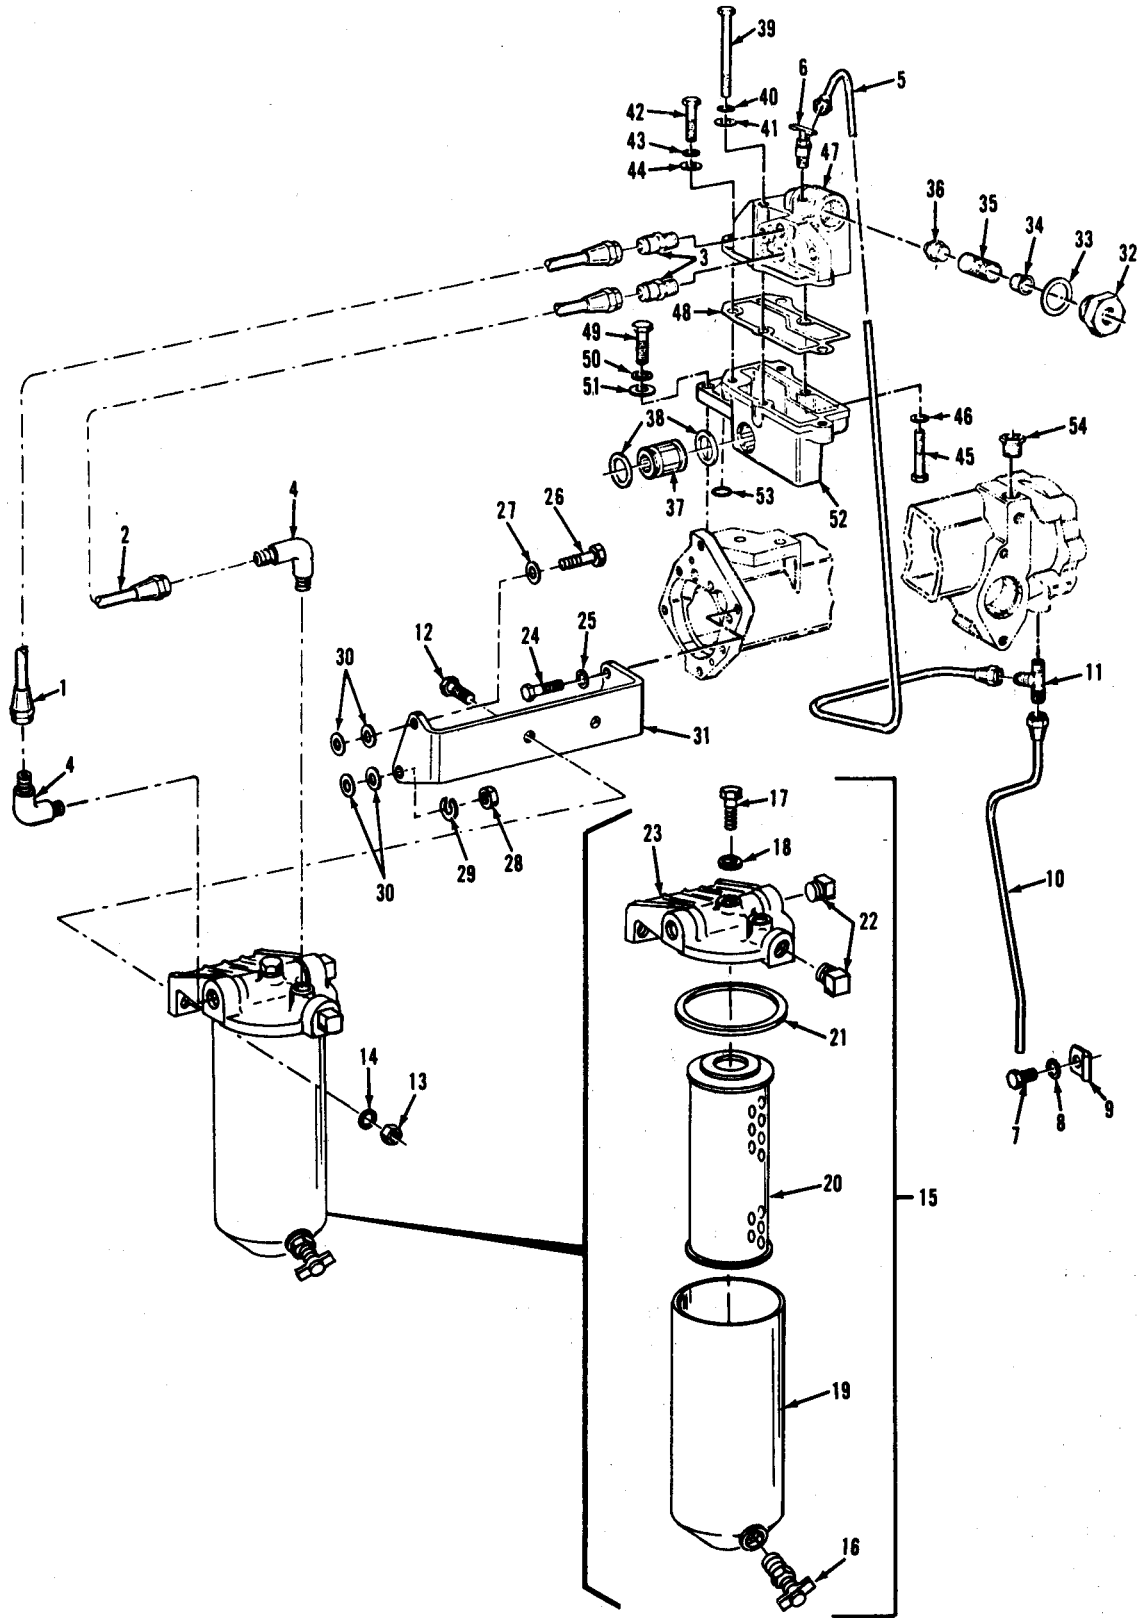

Figure 3-38. Secondary fuel filter and relief valve group, exploded view
b. SECONDARY FUEL FILTER SERVICE. To service secondary fuel filter, refer to figure 3-38, and proceed as follows:
1. Open drain cock (16) and catch fuel in suitable container.
2. Hold body (19) and remove bolt (17) and washer (18).
3. Remove body (19), gasket (21), and element (20) from head (23). Discard gasket and element.
5. Soak new element (20) in clean fuel to remove entrapped air. Apply thin coat of fuel to gasket (21).
6. Close drain cock (16). Position element (20) in body (19). Fill body with clean fuel. Position gasket (21) and bowl on head (23) and secure with bolt (17) and washer (18).
c. REMOVAL AND DISASSEMBLY. Remove and disassemble secondary fuel filter and relief valve group in sequence illustrated in figure 3-38, observing the following:
1. Open drain cock (16) and catch fuel in suitable container prior to removal.
Legend to figure 3-38:
Reassemble and install secondary fuel filter and relief valve group in reverse sequence illustrated in figure 3-38, observing the following: